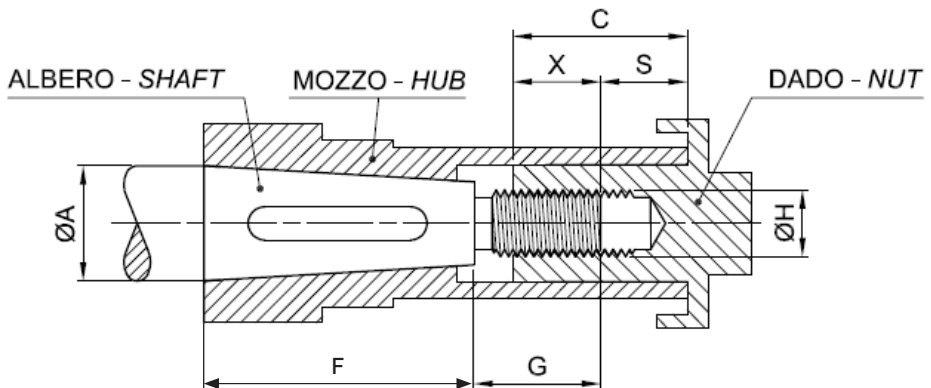

fig. 1
- a. Check the screwing length of the nut (refer to fig.1 where the screwing length is indicated with "X"). To check this we suggest inserting the propeller onto the conical end of the propeller shaft and pushing it against the cone of the shaft (carry out this operation without inserting the key). When the propeller is against the shaft cone, measure the distance between the end of the shaft and the end of the hub (indicated in the figure with "S"). The length "X" is obtained by subtracting the length "S" from the length of the nut "C". The length "X" must be less than "G" and it is recommended that "X" is greater than 0,8 times the thread diameter indicated with " $\varnothing H$ ".